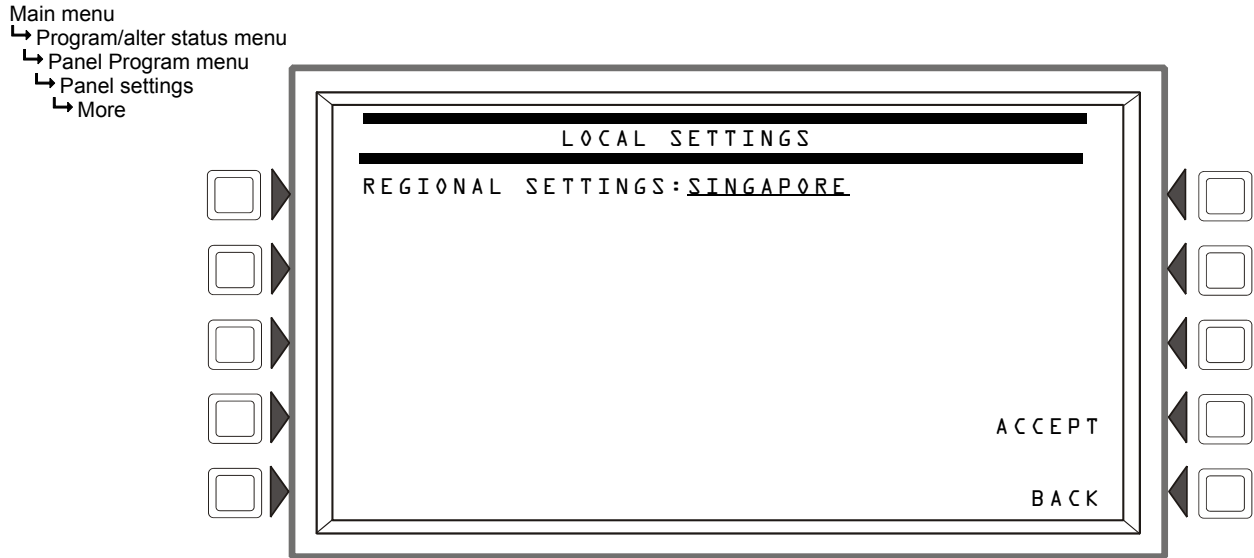

Figure E.1 Regional Settings Screen
The panel programming REGIONAL SETTINGS choices, available through the Panel Settings (2) screen (refer to page 83) are described below. The REGIONAL SETTINGS screen (Refer to Figure E.1) allows scrolling through the available choices by pressing the soft key. Choices are CHICAGO, SINGAPORE, AUSTRALIA, CHINA or DEFAULT (no special regional settings).